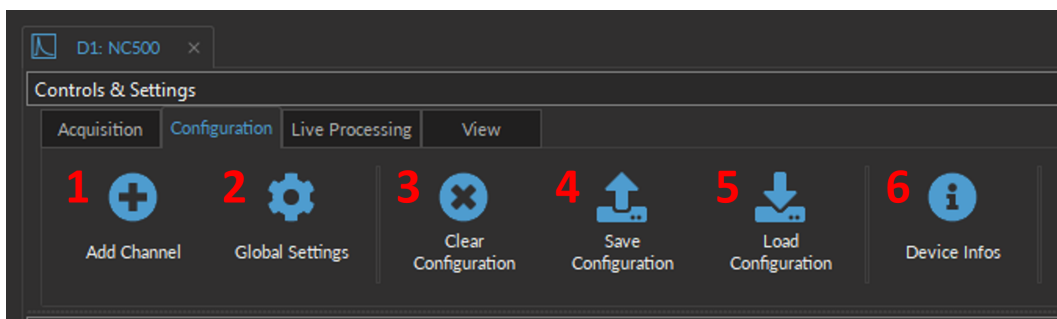
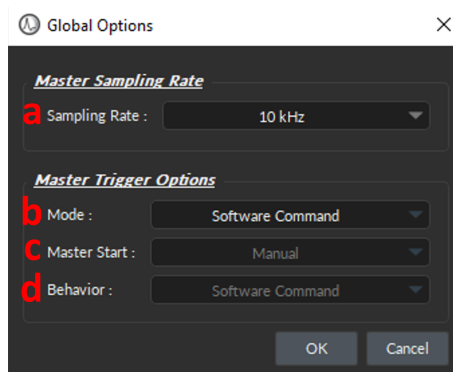
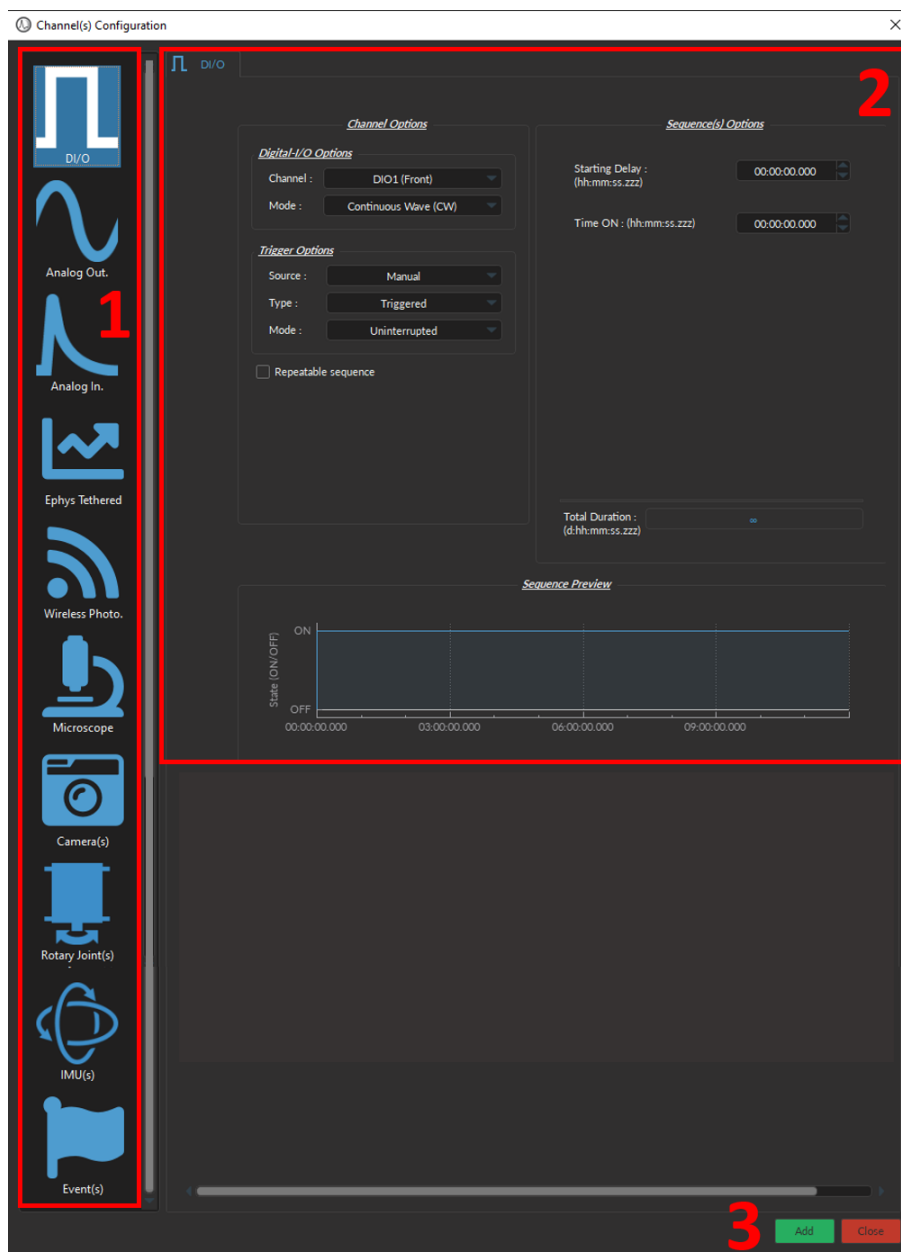

Figure 11.23: Configuration Tab
Figure 11.24: Global Options Window
Figure 11.29: Channel Configuration window
1. The **Add Channel** button (Fig. 11.23, 1) opens the **Channels configuration** window. How to *add* and *configure* a channel is detailed in Section 11.6.
2. The **Global Settings** (Fig. 11.23, 2) opens the **Global Options** window in Fig. 11.24, where the user can set the acquisition sampling rate and specify the master trigger options. Specifically:
- a) The **Master Sampling Rate** (Fig. 11.24, a) sets the number of data points collected per second. Its value is set at 10kHz by default. See section 11.3, no. 3 to enable the *Decimation* and effectively reduce the saving sampling rate and restrict the data file size.
- b) The **Mode** (Fig. 11.24, b) of the **Master Trigger Options** sets the origin (internal, external or time-series) of the trigger that will start the recording session and synchronize all the external and internal devices. Four options are available for different use cases:
- c) The **Master Start** (Fig. 11.24, c) defines the source that automatically starts the recording. This source can either be:
- d) The **Behavior** (Fig. 11.24, d) defines the source of the **Master Trigger** for the **Camera Channels** (see Section 11.6.5).
3. The **Clear configuration** button (Fig. 11.23, 3) resets the acquisition view by removing all configured channels and parameters. Any un-saved configurations will be permanently lost.
4. The **Save configuration** button (Fig. 11.23, 4) allows a console configuration to be saved in the **.doric** format. This file preserves the channel configuration/parameters, the Acquisition View window organization, and any custom trace colors and names.
5. The **Load configuration** button (Fig. 11.23, 5) imports a pre-configured **.doric** file into the module.
6. The **Device Infos** button (Fig. 11.23, 6) opens a pop-up window (Fig. 11.25), which includes the following:
The **Time Series** Window (Fig. 11.26) can be opened by clicking on the **Record** button (Fig. 11.7, 2) when the **Master Trigger** is in **Time Series** mode in the **Global Settings** window (Fig. 11.24, 2). Every **Time Series** sequence is automatically saved to the .doric file defined in **Saving Options** (Section 11.3, no. 3).
To create a new channel, regardless of the input and/or output type, select the **Add Channel** button, which can be found under the **Configuration** tab (Fig. 11.23). This will open the **Channel(s) Configuration** window (Fig. 11.29).
To generate a new **Channel** using the **Channel(s) Configuration** window (Fig. 11.29):
1. Select one of the available **Channel Type** icons from the left most column of the **Channel(s) Configuration** window (Fig. 11.29). Table 11.1 describes the use case of each type.
3. Select the **Add** button (Fig. 11.29) to generate the defined channel or to update an already configured channel. Note that pressing the **Add** button does not automatically close the *Channel Configuration* window. This allows the user to conveniently set up all required channels one after the other.